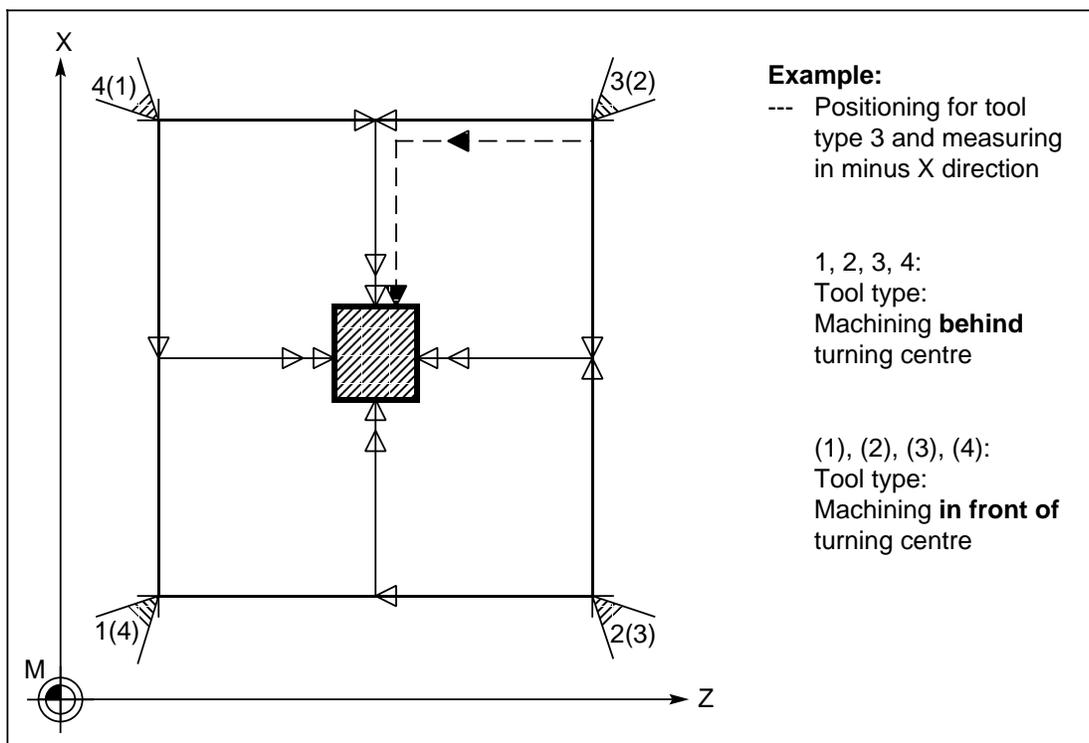

Fig. 4.3 Start positions for tool measurement
- Start position as shown in Fig. 4.3. The cycle calculates the approach position automatically.